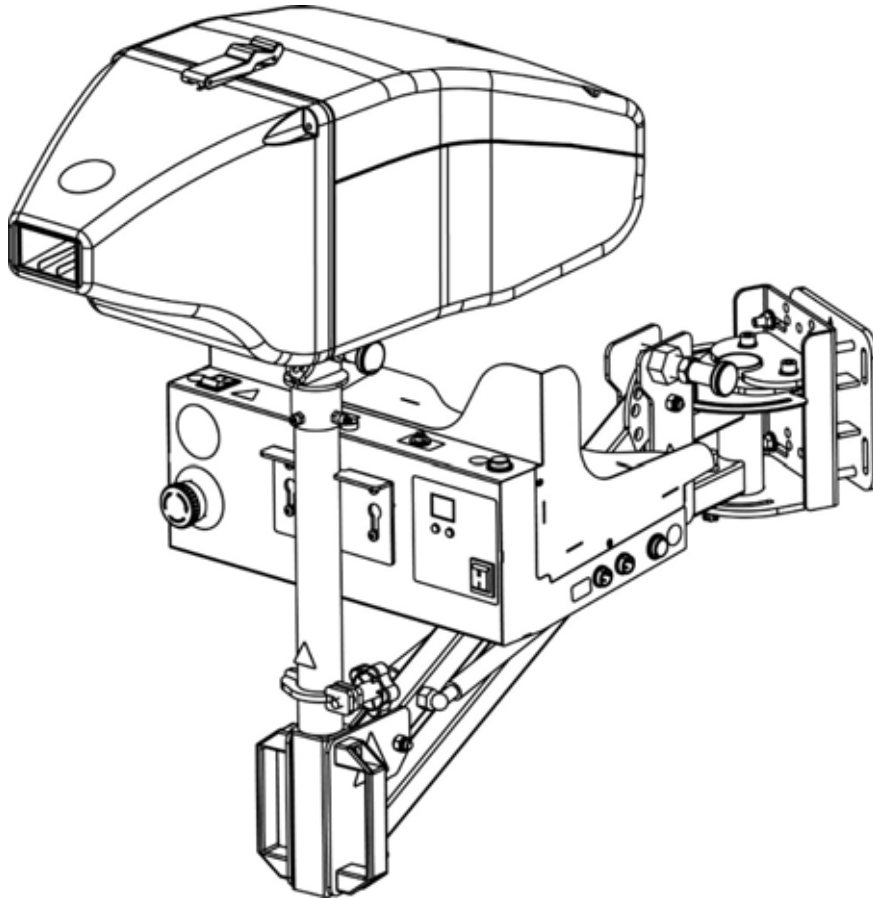

Figure 18 Height-Adjustable Swivel Arm
4. Height-Adjustable Swivel Arm (refer to Figure 18)